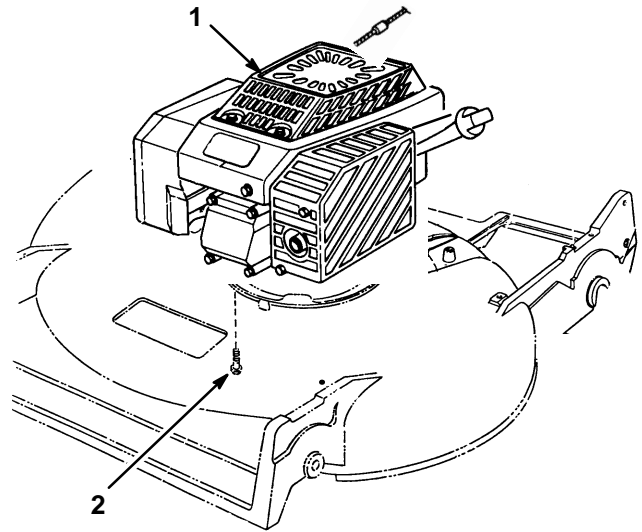

**Figure 7**
1. Remove (2) blade nuts, anti-scalp cup, blade stiffener/accelerator, blade, lock nut and blade spacer. Then loosen tabs securing BBC shield to housing by loosening nuts or bolts on tabs. Rotate tabs 180° out of the way. Remove BBC shield, hub assembly, brake drum, (2) blade bolts, flywheel, pulley driver and woodruff key (Fig. 7). Retain all of these items for reinstallation.